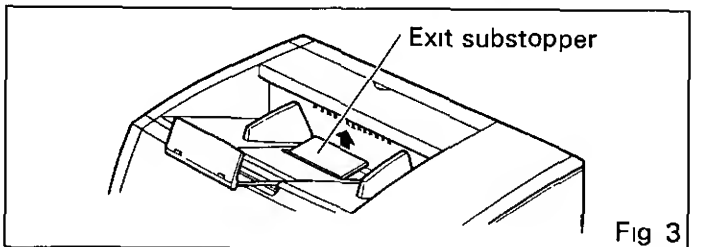

Fig 3
- When scanning thin documents, raise the exit substopper slightly to let the document exit smoothly. (See fig 3)